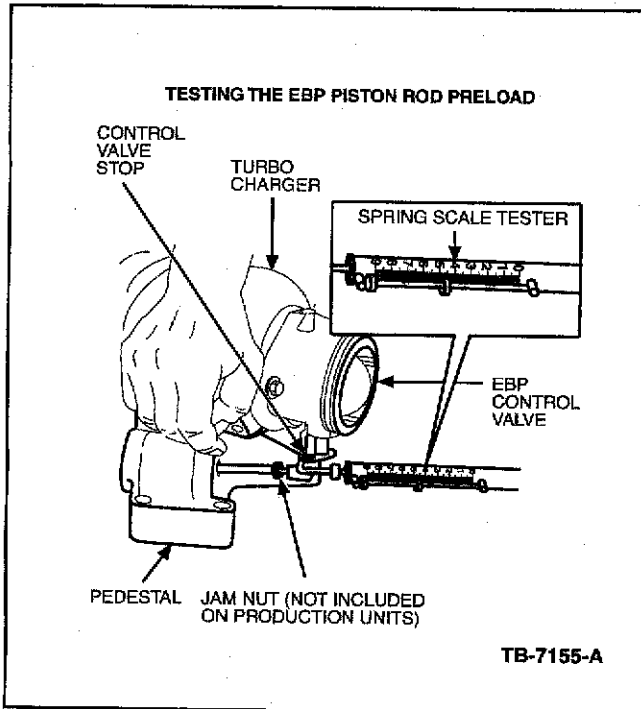

Figure 5 - Article 03-14-10
- c. Attach a spring scale tester to the control arm and pull on the tester (Figure 5).